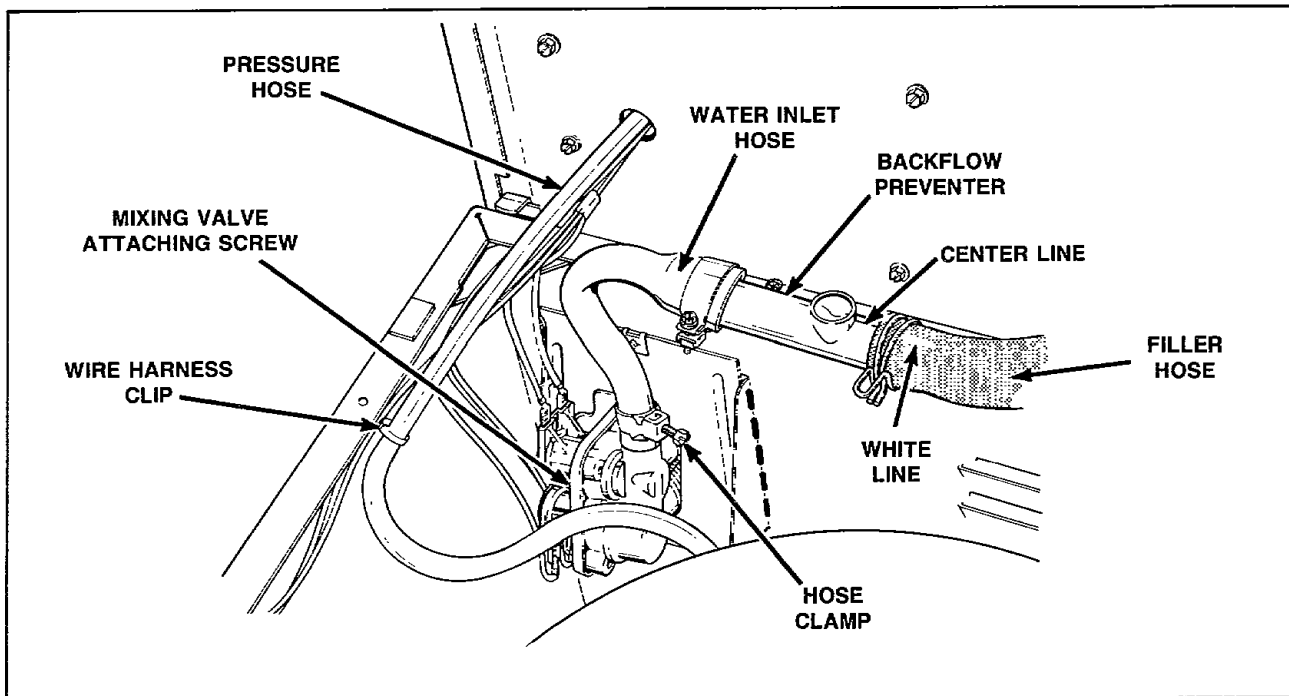
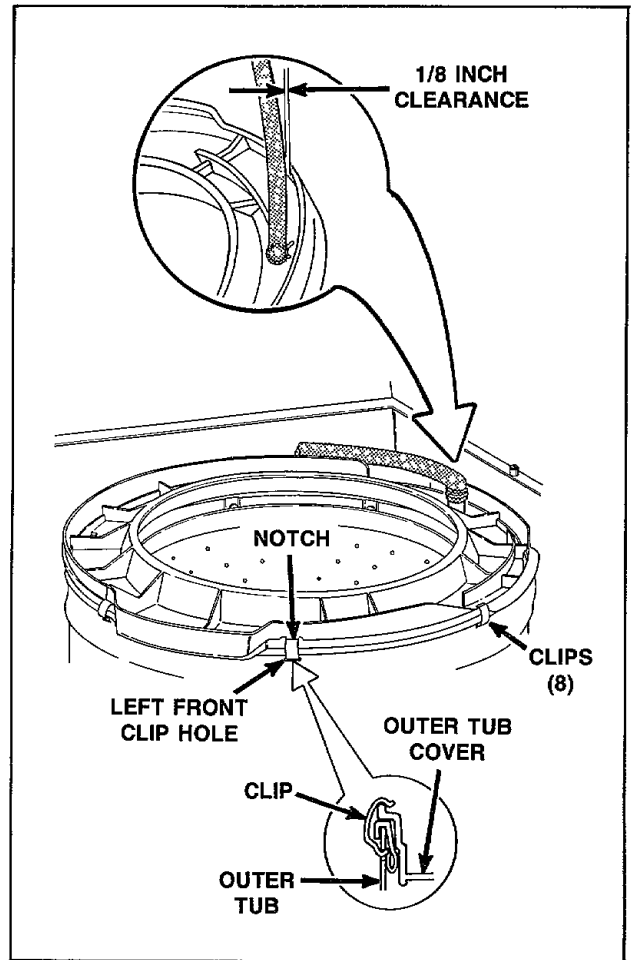

Figure 30
Figure 32
- b. Remove screw holding mixing valve to mounting bracket at rear of washer cabinet, *Figure 30*.
- c. Pull mixing valve out toward front of washer far enough to permit disconnecting water inlet and fill hoses from mixing valve, *Figure 30*.
1. Disconnect filler hose from backflow preventer, *Figure 30.*
NOTE: When installing filler hose, white line on hose must be aligned with center line of backflow preventer, *Figure 30.* A 1/8 inch clearance is necessary to prevent the hose from rubbing on the flange of the tub cover, *Figure 32.* Loosen hose clamp and move hose to obtain the proper clearance.
2. Remove eight clips holding outer tub cover to tub, *Figure 32,* lift cover off tub and set beside washer cabinet.
NOTE: When installing outer tub cover, always use a new cover gasket. Lubricate the gasket with liquid soap to aid in assembly. Cover must be placed on outer tub so notch on top edge of outer tub cover is directly over left front clip hole in tub, *Figure 32.* Starting with this hole, place each spring clip in its respective hole and snap in place. See *Figure 32* for proper clip installation.
NOTE: When reinstalling filler hose, white line on hose must be aligned with center line of backflow preventer, *Figure 30*.
NOTE: When installing outer tub cover, lubricate the cover gasket with liquid soap to aid assembly. Cover must be placed on outer tub so notch on top edge of outer tub cover is directly over left front clip hole in tub, Figure 32. Starting with this hole, place each spring clip in its respective hole and snap into place, refer to Figure 32 for proper clip installation.